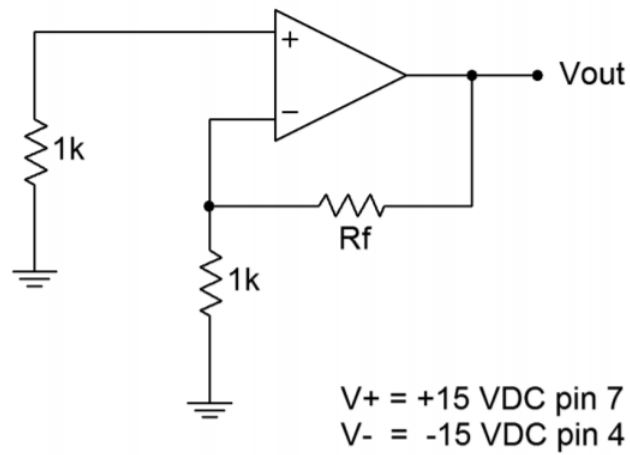

Figure 11.5.1
1. Note that the circuit of Figure 11.5.1 is a non-inverting voltage amplifier. Calculate the voltage gains for the amplifier of Figure 11.5.1 for the R_f values specified, and record them in Table 11.7.1.
3. Assemble the circuit of Figure 11.5.1 using the $4k7\ \Omega$ resistor.
9. Build the circuit of Figure 11.5.1 in a simulator using a 741 op amp and $47k$ for R_f . Run a DC Operating Point analysis to determine the DC output voltage. Compare this to the results measured in Tables 11.7.1 and 11.7.2. Repeat the simulation with all resistors 10 times larger, and again with all resistors 100 times larger.
3. Given the range of adjustment found in Table 11.7.3 along with the data from Tables 11.7.1 and 11.7.2, is it likely that the circuitry of Figure 11.5.1 will be sufficient to correct for the offset produced by a worst case op amp? Explain.